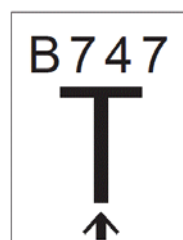
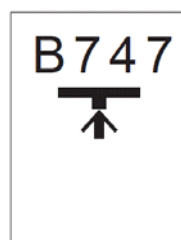

Fig. 10
Fig. 11
- (1) When the approaching aircraft is within 20 meters from the stopping position, the shaft of the illuminated "T" will start to reduce in its length from the bottom to indicate the approaching rate of the aircraft, indicating the remaining distance to the stopping position successively. (Fig.10, Fig.11)